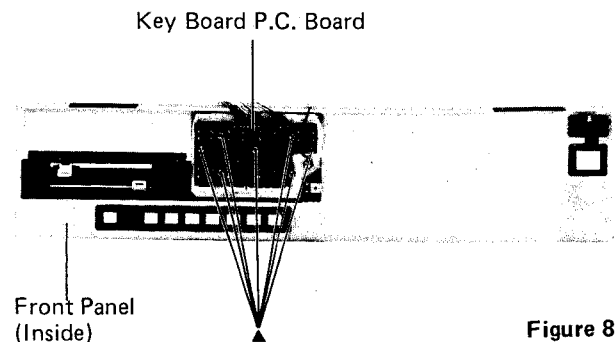

Figure 8
- (1) Remove seven screws marked "▲" as shown in Figure 8.
- (2) Disconnect all wires from the key Board P.C. Board.